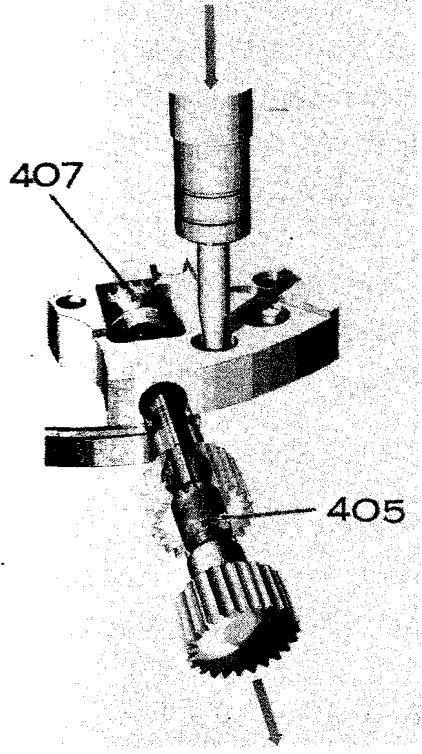

FIGURE 9
5. Remove the hand setting stem (405) by pressing on the setting lever axle, as shown in Figure 9.
As shown in Figure 9, remove the stem and crown. Replace the movement in the case (without the module-upper plate). Replace the stem and crown, and be sure to grease the crown joint. Loosen the clamp screws; slide the clamps outward and secure their screws tightly. Each of these clamps has two "dimples" to facilitate its manipulations with tweezers. Place the upper plate (module) in position, and fix it in position by means of its four screws.
Press on the set lever axle, withdraw the stem and crown, and remove the clutch wheel (407, Figure 9).